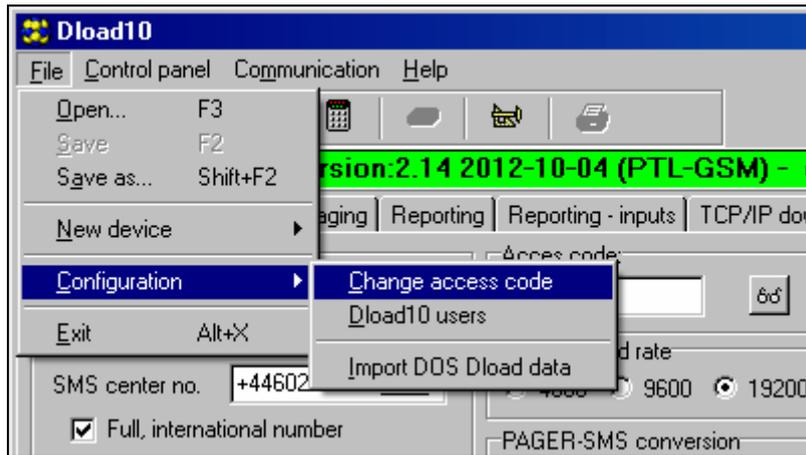

Fig. 13. Functions related to the DLOAD10 program access.
1. In the "File" menu, select "Configuration", and then "Change access code" (see: Fig. 13).
The program allows to get access based on additional codes which can be programmed and for which authority level can be defined (in the "File" menu, select "Configuration", and then "Dload10 users" – see: Fig. 13).